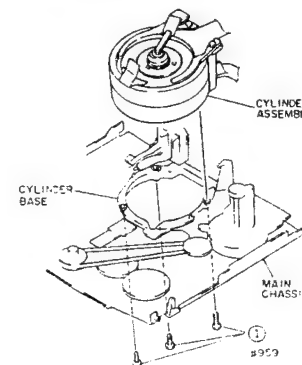

Fig. 2-63
- 1) Remove three (3) screws and remove the cylinder assembly from the main chassis. (See Fig. 2-63)